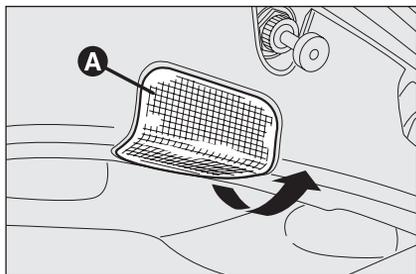

fig. 40
- remove the light unit **A-fig. 40** working in the point shown by the arrow;